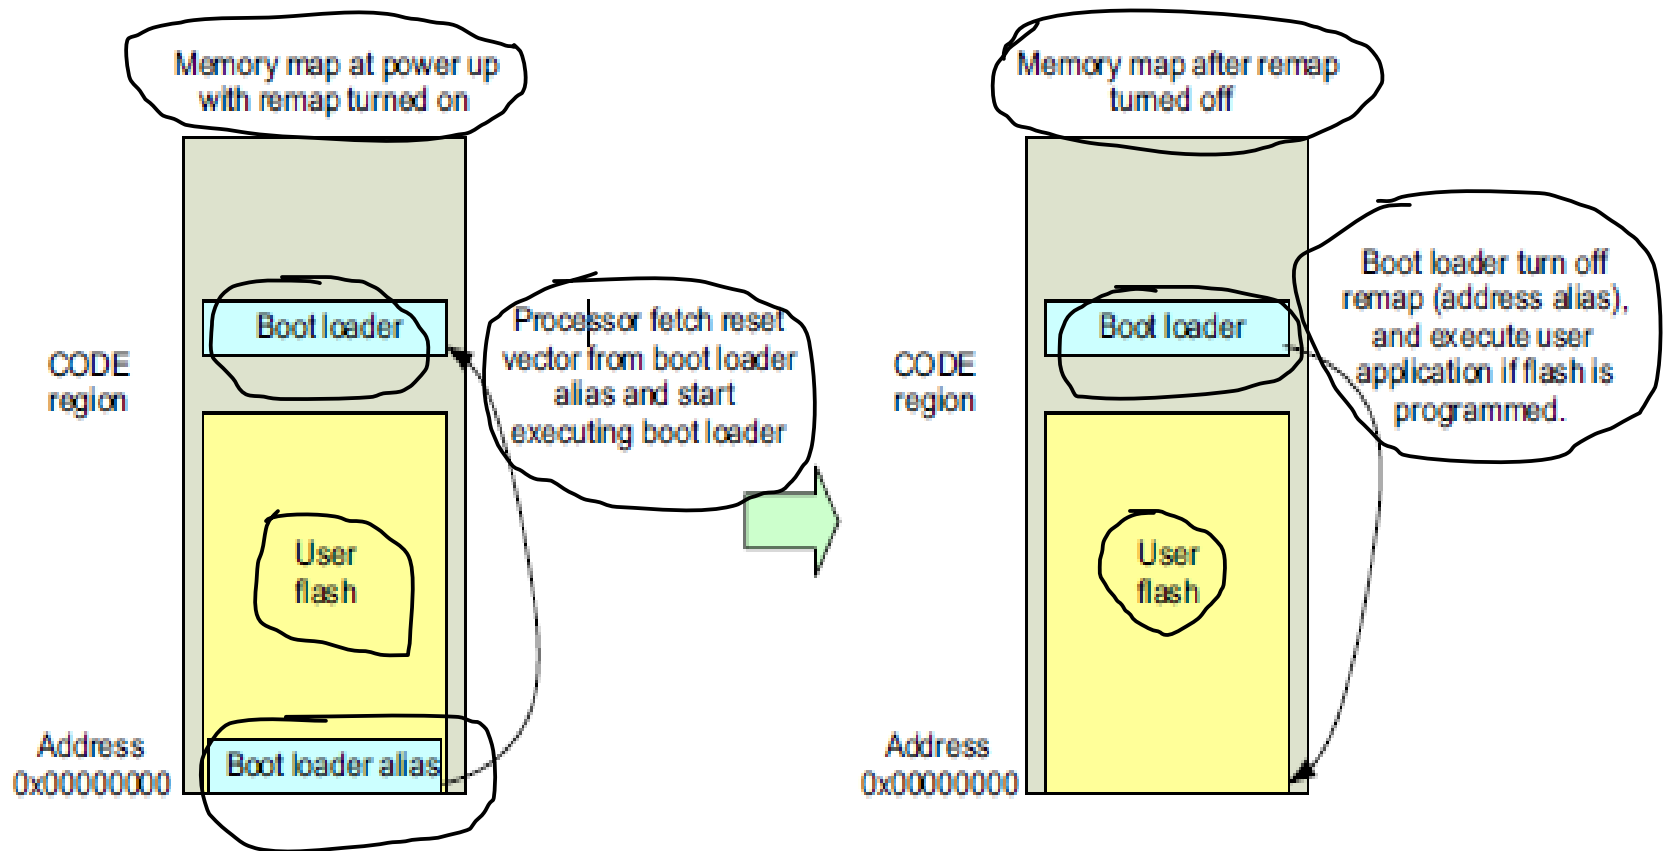

Figure 7.4:
- One common remap arrangements to allow the boot loader to be mapped to the start of the memory during the power-up phase using address alias, as shown in Figure 7.4.